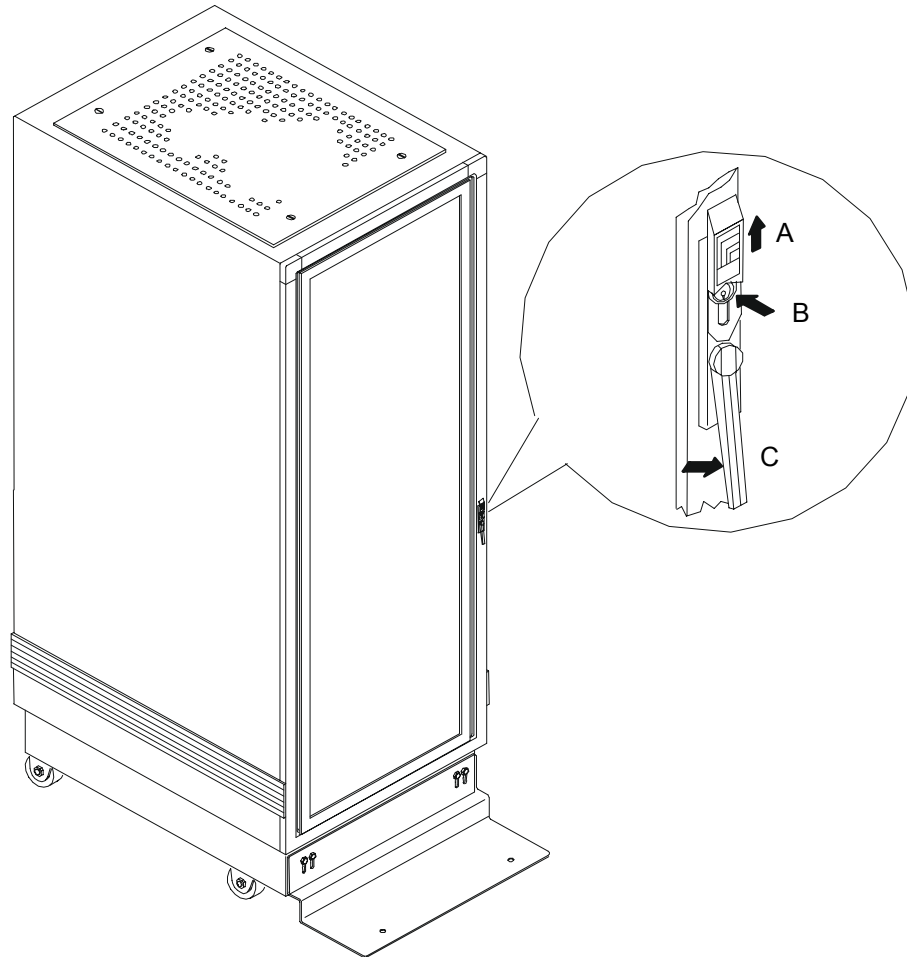

Figure 4-2. Accessing Door Handles
1. Slide the handle release cover up to uncover the keylock and the handle release button. See Figure 4-2, A.
2. Unlock the lock, if necessary (Figure 4-2, B). Depress the handle release button (key hole button). The door handle extends when unlatched.
3. Rotate the handle (Figure 4-2, C) clockwise to open the door.